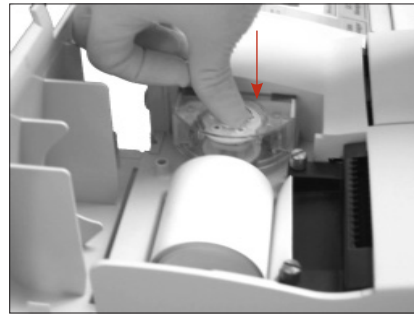

Figure I-4: Push down the pump roller
- Press the pump cartridge roller down until it is firmly seated on the shaft of the pump motor (Figure I-4).